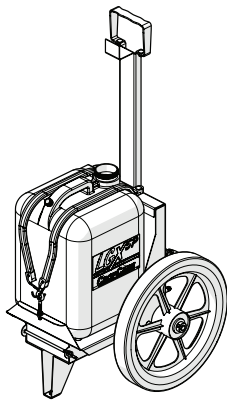

Figure 3: Reattach 5 gallon tank
3. After the handle mount has been installed place the five gallon tank back onto the sprayer frame and secure to the frame by reattaching the bungee straps to the eye bolt. (Figure 3)